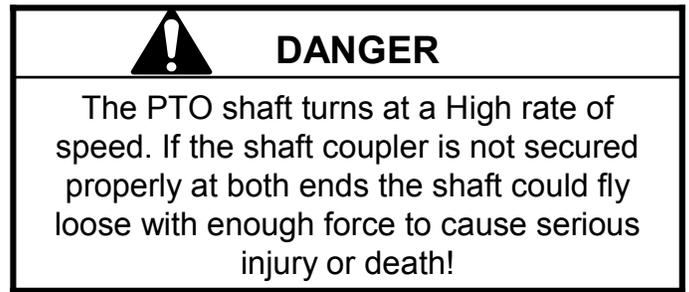

FIG. 1
- Attach the safety chains to the ROPS and small chain clips to hold the tractor foot rest up out of the way. **(FIG 1)**